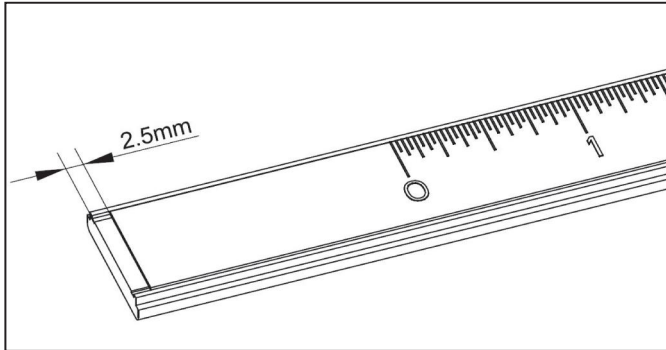

Fig. 7-3
This product comes with one set each of long and short scales, with both imperial and metric specifications in each set. Users can paste them as needed. As shown in Fig. 7-3, when pasting the scale, position the edge of the scale 2.5mm inside the scale base; paste it centrally in the width direction.
The scale is equipped with stops at both ends, as illustrated in Fig. 7-3. To set the fence to the high position, align the scale with the "HIGH" stop. For the low position, align it with the "LOW" stop. Before use, follow these steps to calibrate the position of the scale stops:
1. Loosen the two M4 set screws on the scale stop using a 2mm hex key, as shown in Fig. 7-3. Move the scale stop to a position away from the scale, then re-tighten the set screw.